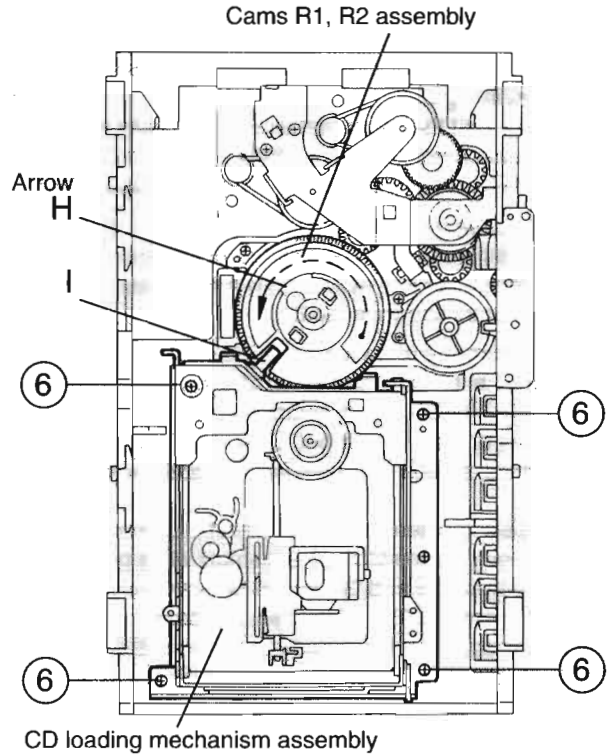

Fig.10
**Removing the CD loading mechanism assembly(See Fig.10)**
1. While turning the cams R1 and R2 assembly in the arrow direction "H" , align the shaft "I" of the CD loading mechanism assembly to the position shown in Fig.10.
2. Fig.10.